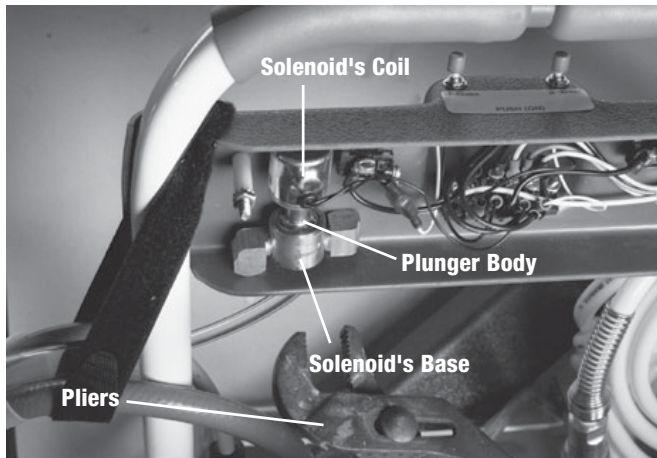

Figure 22
4. Lift solenoid coil up and use pliers to unscrew plunger body out of the solenoid's base (fig. 22).